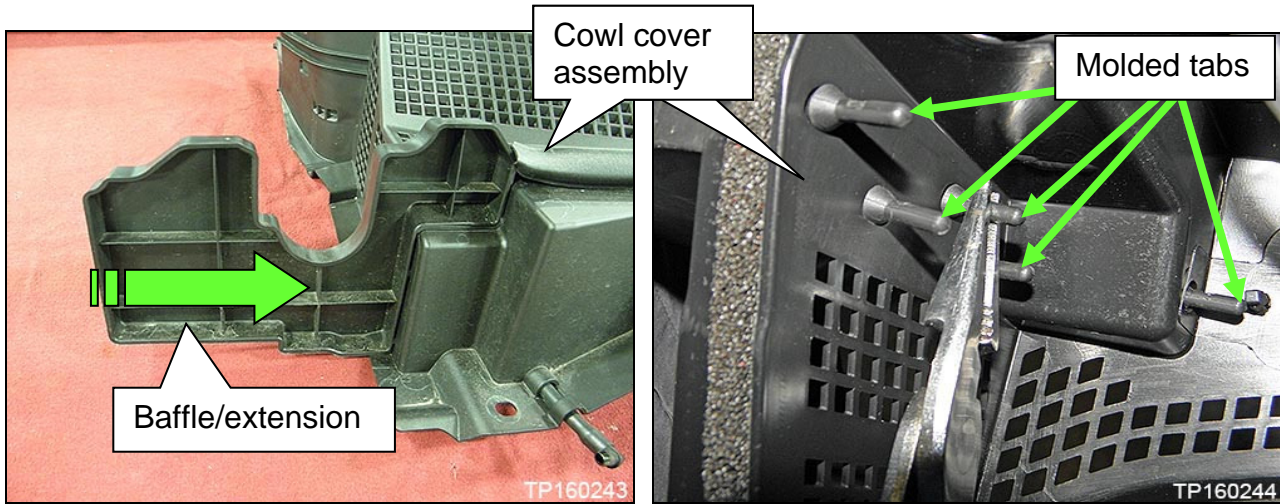

Figure 12
3. Assemble the new cowl cover extension (part #: 66812-EZ01B) to the new cowl cover assembly (part #: 66810-EZ10B) from Part Information by inserting the molded tabs into the side of the cowl cover assembly (Figure 12).